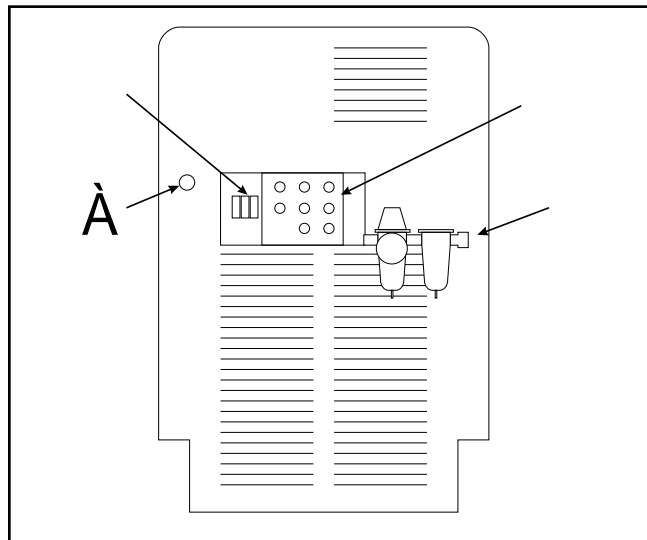

FIGURE A.1 - Case Back Assembly
Before installing the machine, check that input supply voltage, phase, and frequency are the same as the machine's voltage, phase, and frequency as specified on the machine's rating plate on the Case Front Assembly. See Figure A.1 for the location of the machine's input cable entry opening, terminal block, and reconnect panel assembly. Input power supply entry is through the hole in the Case Back Assembly.
- a. Remove the plastic thread protector from the machine's regulator input port located on the back of the machine. Refer to figure A.1.